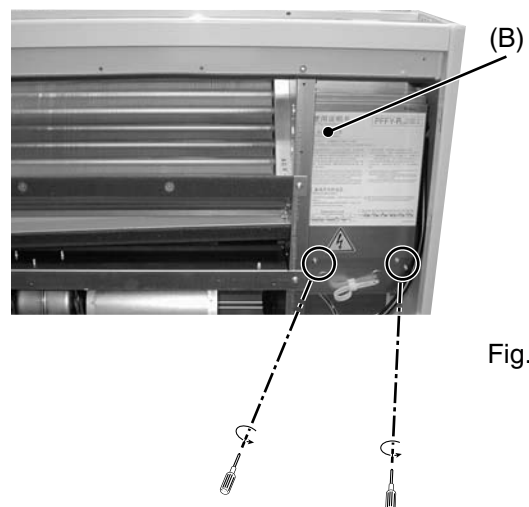

Fig.3
(1)Remove the fixing screws(two) of the cover(B) and remove the cover.(Fig.3)